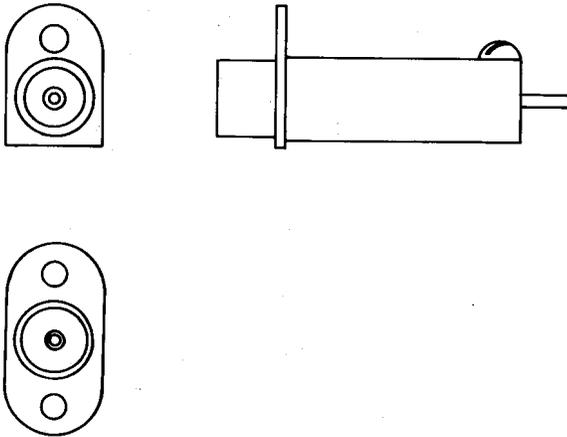

Fig. 8—558A or B Jack
2.08 558A and B: These are single-mounted coaxial jacks (Fig. 8).